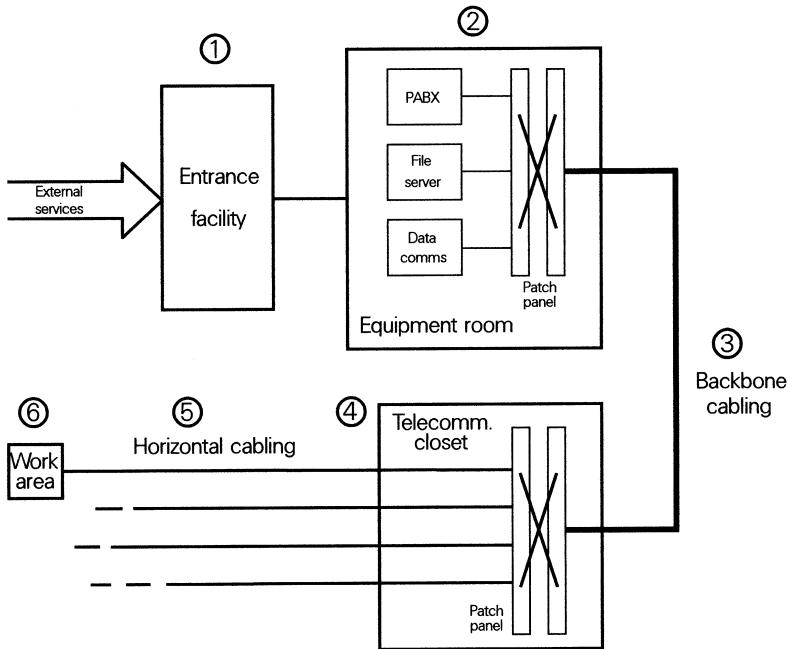

Figure 6.2 *Composition of structured cabling system.*
The EIA/TIA 568A Standard has identified six subsystems within a structured cabling system, shown in Fig. 6.2. The entrance facility, (1), is the point where external services such as the PSTN, and private voice and data circuits, enter the building and are terminated. The equipment room, (2), houses the primary communications equipment, such as a PABX, file servers and routing equipment, and maybe data transmission equipment to interface the building system with the external services. Fig. 6.2 shows a number of facilities in the equipment room by way of example. Flexible interconnection is made possible by the use of a patch panel.